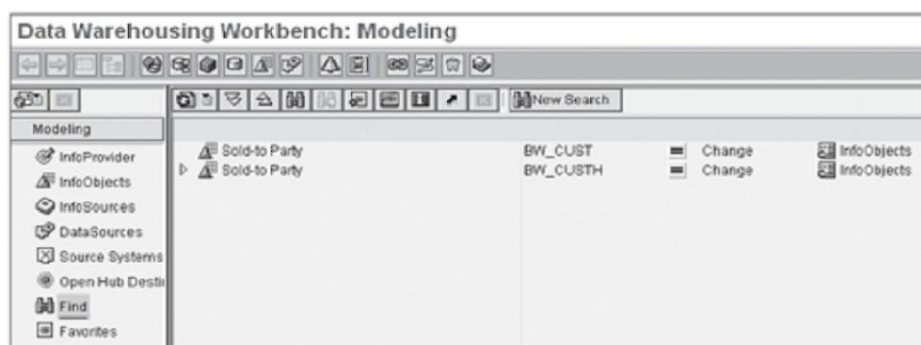

Figure 2.18 Search Results
3. Select the checkbox indicating whether you want to restrict your search to the technical name or description (❷).
4. If you don't know what kind of object you're searching for, select All Object Types. If you do know the object type, tick the appropriate checkbox (❸).
5. Click on the Search icon (❹). SAP NetWeaver BW shows the result of this search, as shown in Figure 2.18.